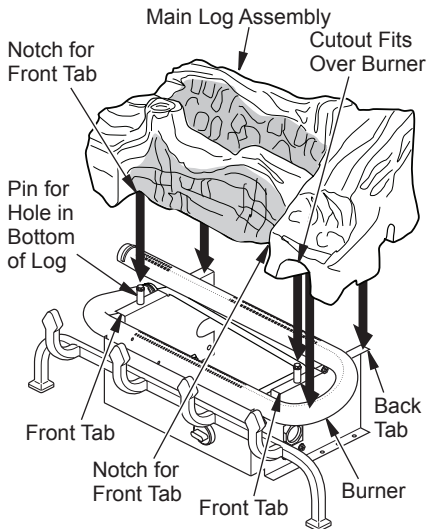

Figure 22 - Installing Main Log (#1)
1. Place main log assembly (#1) onto base. Cutout on front right will fit over burner (see Figure 22). Holes in bottom of log must seat over pins on base as shown in Figure 22. Make sure back of log assembly is resting on back tabs of base.